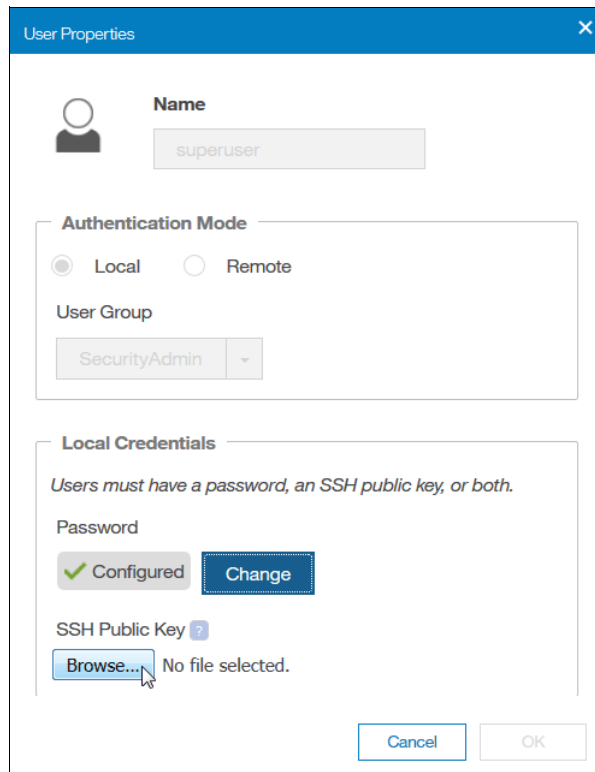

Figure A-8 Select public key
3. To upload the public key, click **Browse**, and select the folder where you stored the public SSH key (Figure A-8).